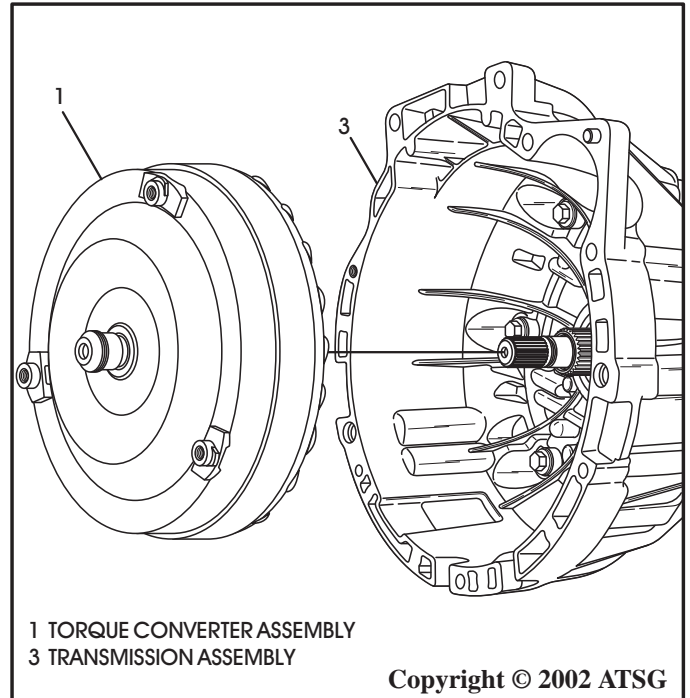

Figure 26
2. Remove the torque converter assembly from transmission as shown in Figure 26, by pulling straight out and rotating until dis-engaged from the transmission.